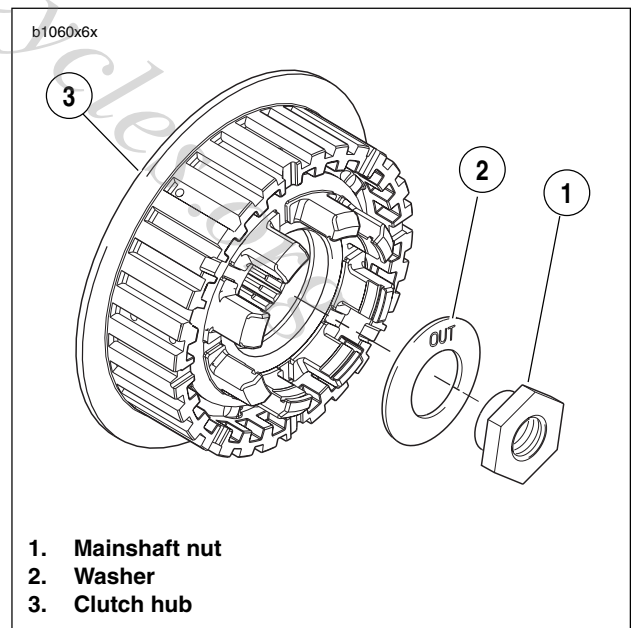
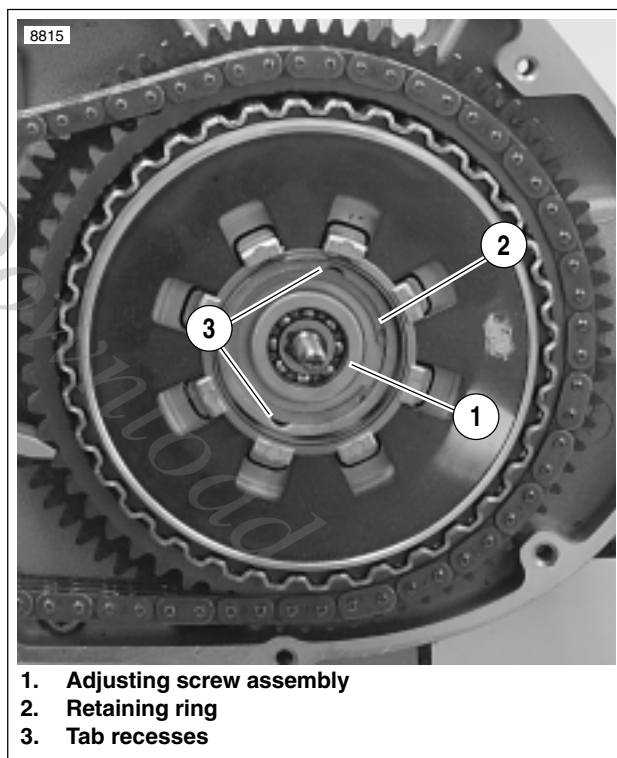

Figure 6-35. Mainshaft Nut and Washer
Figure 6-37. Clutch Adjusting Screw Assembly and Retaining Ring
See Figure 6-35. Washer must be installed with the word "out" facing the mainshaft nut or transmission may be damaged.
6. See Figure 6-35. Install mainshaft washer (2) and nut (1).
- b. Place washer (2) on mainshaft with the word "out" facing away from clutch hub.
- c. Install nut (**left-hand threads**) (1). Tighten to 70-80 ft-lbs (94.9-108.5 Nm).
- a. See Figure 6-37. Align two tabs on perimeter of release plate with corresponding recesses (3) in pressure plate.